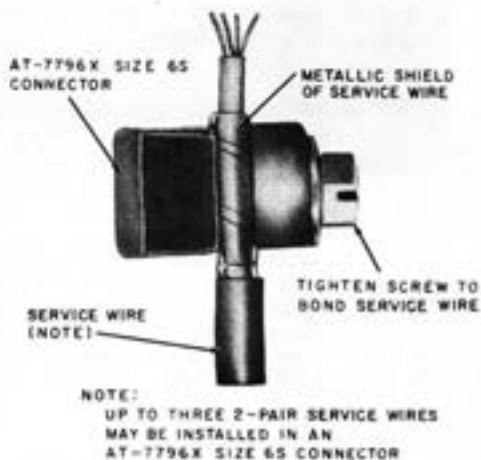
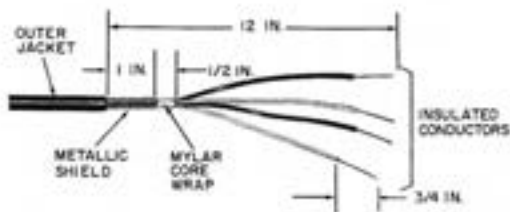

Fig. 4—Service Wire Installed in AT-7796X Connector
Fig. 7—**Prepared Service Wire—RC4/72 Cable Closure**
3.02 Install the metallic shield of the filled service wire in the AT-7796X (Fig. 4) and tighten the screw.
4.01 Prepare service wire as shown in Fig. 7 and install the metallic shield in the AT-7796X connector as shown in Fig. 4.
4.03 Prepare the service wire as shown in Fig. 9 and install the metallic shield in the AT-7796X connector as shown in Fig. 4.
5.05 Route service wire in E cable closure and secure in place with AT-7796X connector as shown in Fig. 4.